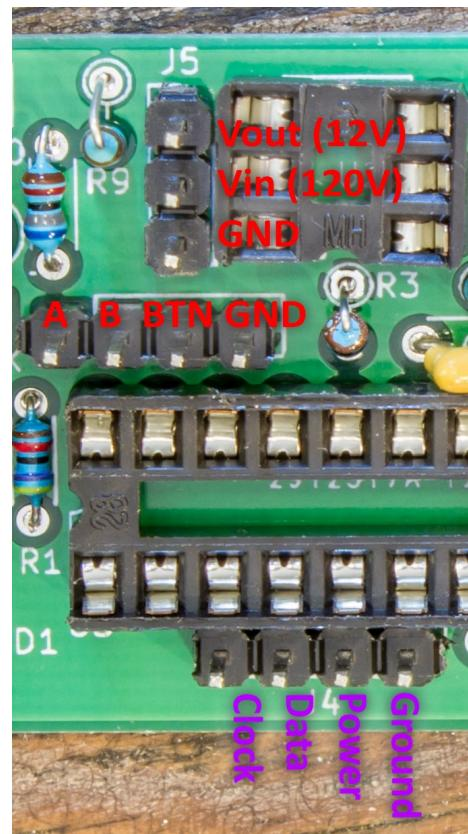

Figure 29: Connecting High-Voltage Boost Converter to Control Board
37. Connect the **High-Voltage Boost Converter** supply power to the **Control Board**. NOTE: Figure 29 shows the high-voltage (RED) wire connected. Leave it disconnected for now, only connect the other two wires.
41. Turn the **Power Switch** off, then connect the **High-Voltage Boost Converter** output to the control board (see Figure 29).